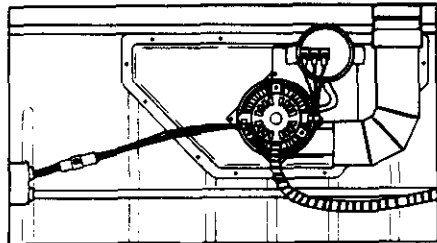

Figure 35 (4-049)
2. Place draft inducer on four mounting studs with vent outlet on the right. See Figure 35. Attach draft inducer to draft inducer collector box. Use four #8-32 hex nuts from hardware package. Tighten to torque of 60 inch-pounds.
1. Install pressure switch on mounting studs at top and right side of draft inducer. Use #8-32 hex nuts from hardware package. See Figure 35 for correct location.
3. Connect pressure tubing to draft inducer pressure fitting as shown in Figure 35. Be sure tubing is open and has no kinks or splits.